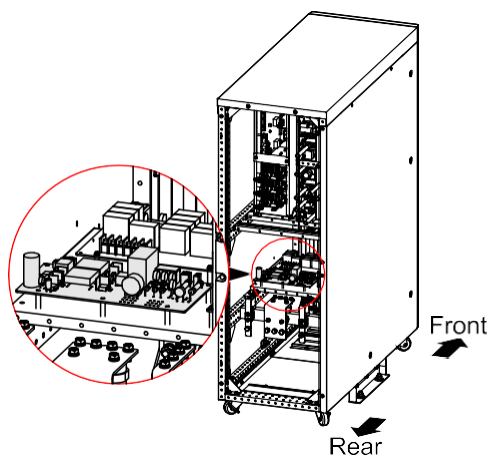

Figure3-25 Installation position of PCB for 120K
Step 1 Take out the PCB of battery release, then install it in UPS rear with five bolts M4, installation position as shown in Figure3-25, Figure3-26.